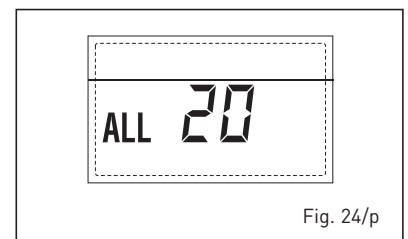

Fig. 24/p
– DELIVERY PROBE BREAKDOWN ANOMALY FIRST MIXED ZONE "ALL 21" (fig. 24/q)